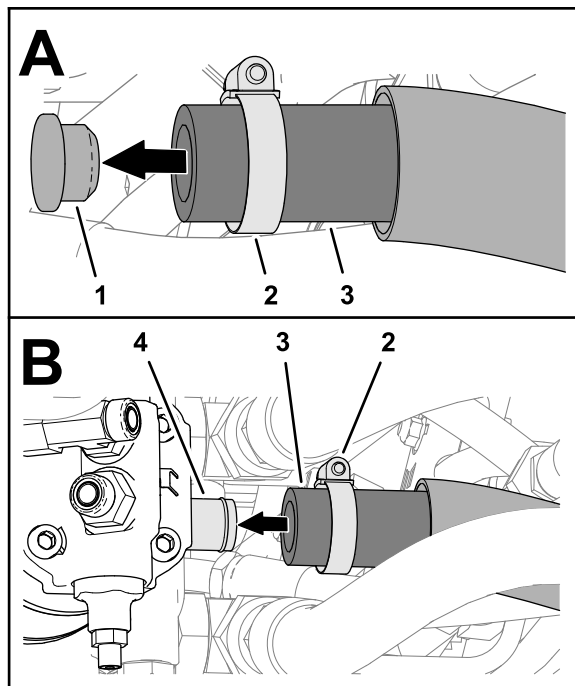

Figure 112
2. Loosen the hose clamp (Figure 112).
3. Remove the hose plug from the suction hose and assemble the hose onto the barbed fitting of the hydraulic pump (Figure 112).
4. Secure the hose to the fitting with the hose clamp (Figure 112).